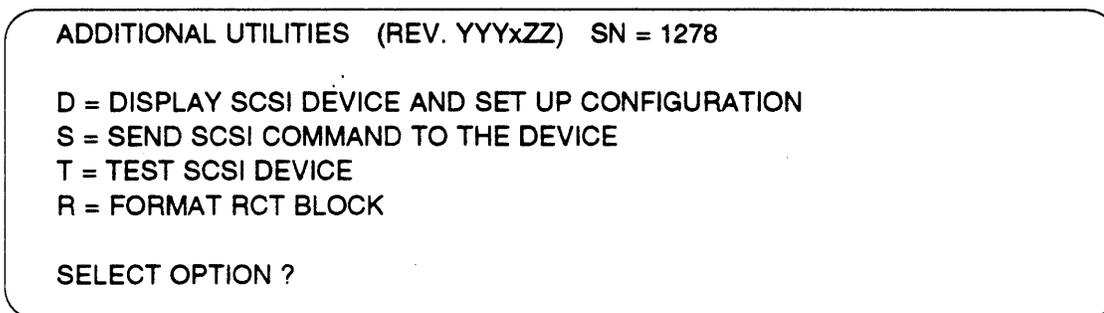

Figure 4-6: Utility Sub-menu
To access additional utilities for disk drives, select option 5 from the main menu. To access additional utilities for tape drives, select option 7 from the main menu. The additional utilities menu will display as shown in Figure 4-6.
- 1 Select option *D* at the sub-menu (Figure 4-6), the following current configuration is displayed as shown in Figure 4-7.